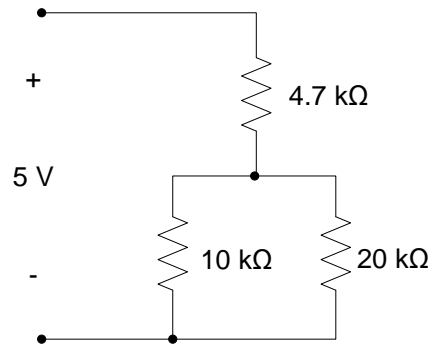

Figure 1. Circuit schematic.
This portion of the lab assignment concerns the circuit shown in Fig. 1 below. A power supply is used to apply the 5V voltage difference. We wish to determine the power dissipated by the 4.7K Ω resistor.
Analyze the circuit of Fig. 1 to estimate the power dissipated by the 4.7KΩ resistor.
1. Construct the circuit of Fig. 1. Measure and record the actual resistance values used in your circuit. Measure the parameters (voltages and/or currents) necessary to determine the power dissipated by the 4.7KΩ resistor. Determine the power dissipated by the 4.7KΩ resistor.